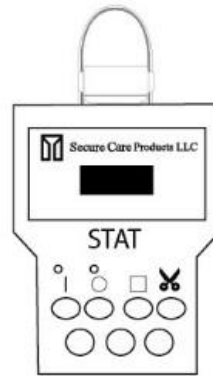

Figure 1.5
6. After waiting the full 60 seconds put the tester up to the Tag so that the top of the tester touches the top of the Tag. The tester should flash TX OK and the Tags ID. (Please refer to **Figure 1.4**, and **Figure 1.5** for proper orientation of the Tag to the tester.)
1. Turn on the Tester and verify the green power LED labeled PWR is on solid; if blinking, replace the (2) 9-volt batteries.
3. Orient the Tag on the front of the patient's leg. (Please refer to **Figure 1.4** and **Figure 1.5** on page 7 for proper orientation.